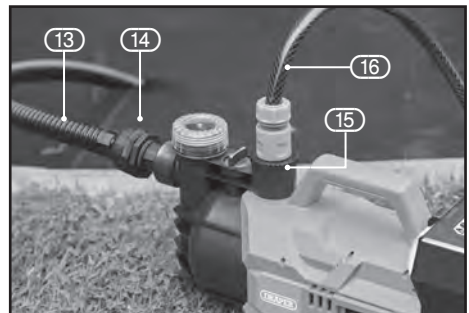

FIG.4
- Connect the 1 1/4" Suction hose connector (14) into the suction inlet (4).
- Connect the outlet hose adaptor (15) into the water delivery outlet (4).
- Attach a suitable outlet hose with a 'snap fit' connection (16) as seen in Fig.4) onto the outlet hose adaptor (15). **Note:** The outlet hose should be able to withstand the maximum delivery capacity of the pump.